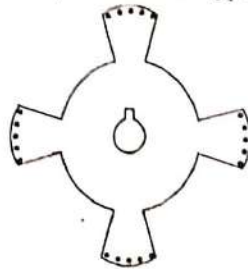

Fig. 1 Reluctance motor rotor.
- Fig. 1 Show the 4-pole reluctance type synchronous motor.